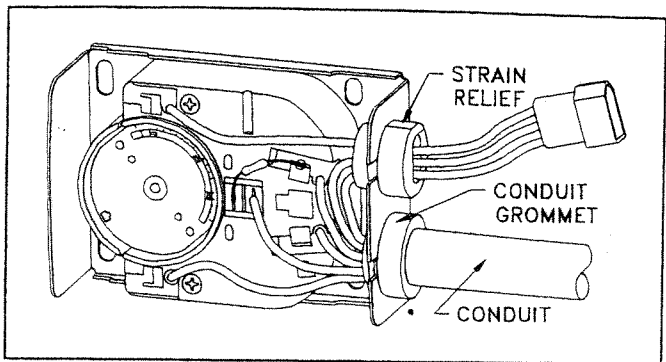

Figure 20. Fan/Limit Control.
11. Remove fan/limit control, 3/4"-strain relief bushing. Remove conduit and then conduit grommet from original fan/limit control knockout. See Figure 20.